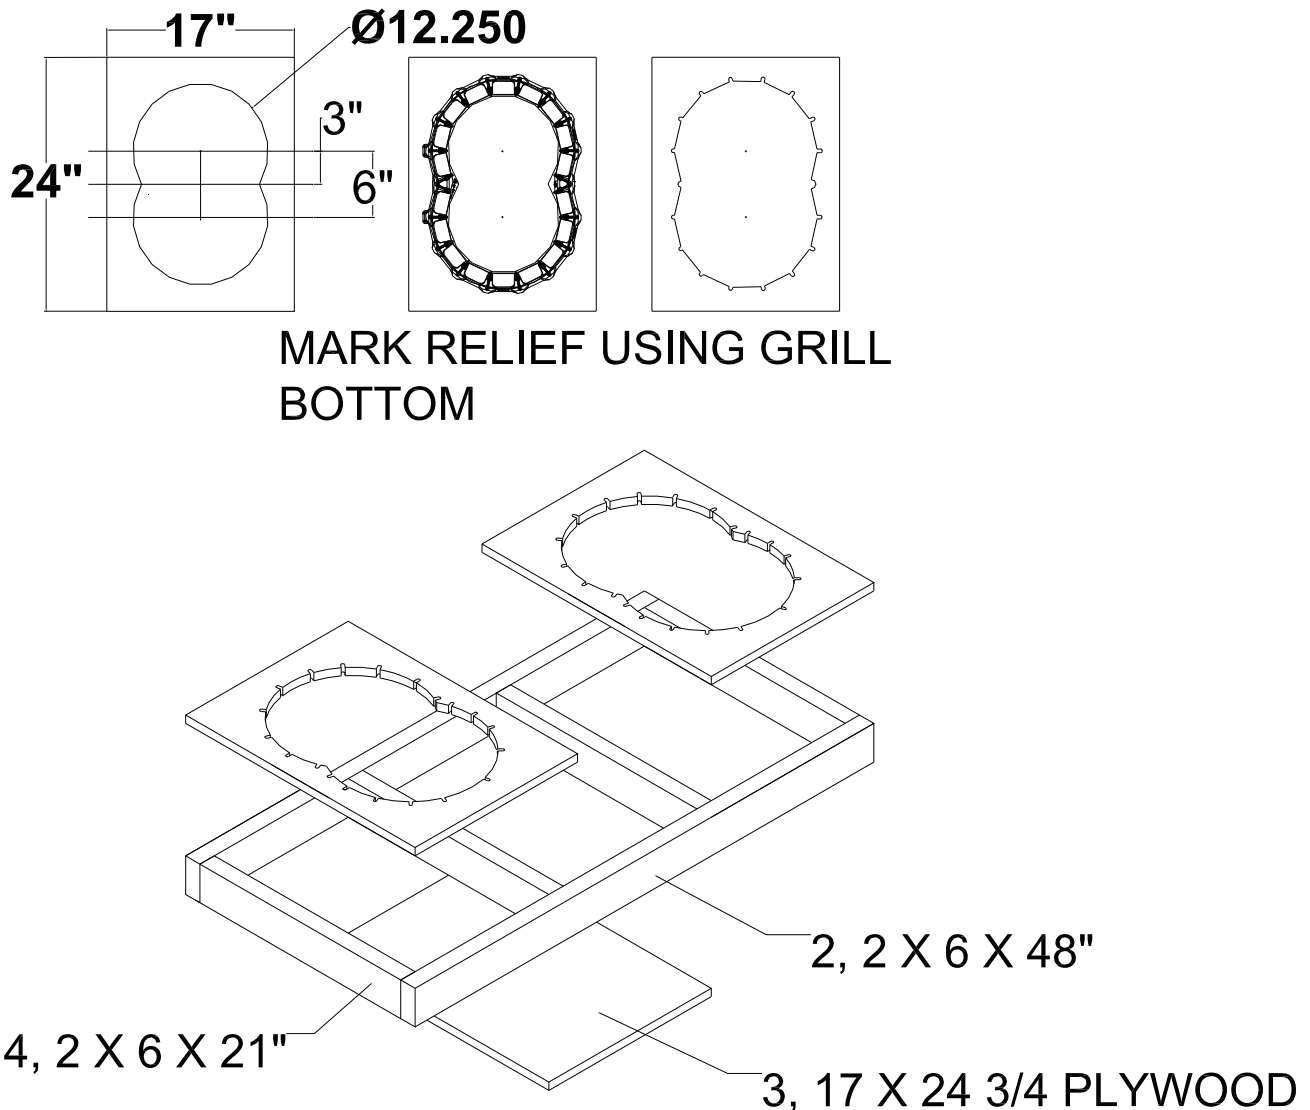

Figure 19. Feed Pan Assembly Box Construction
2. Center the grill on the 17" [432 mm] x 24" [609 mm] piece of plywood. Use a pencil and draw around the inside edge of the grill as shown in **Figure 19**. Mark a "V" at each strut location.
4. Use a spade bit to drill a hole at each strut location as shown in **Figure 19**.
6. Use FOUR (4) 21" [534 mm] and two (2) 48" [1219 mm] 2" [51 mm] x 6" [236 mm] to construct the box sides. Nail the 3/4" [19 mm] plywood fixture to the box.